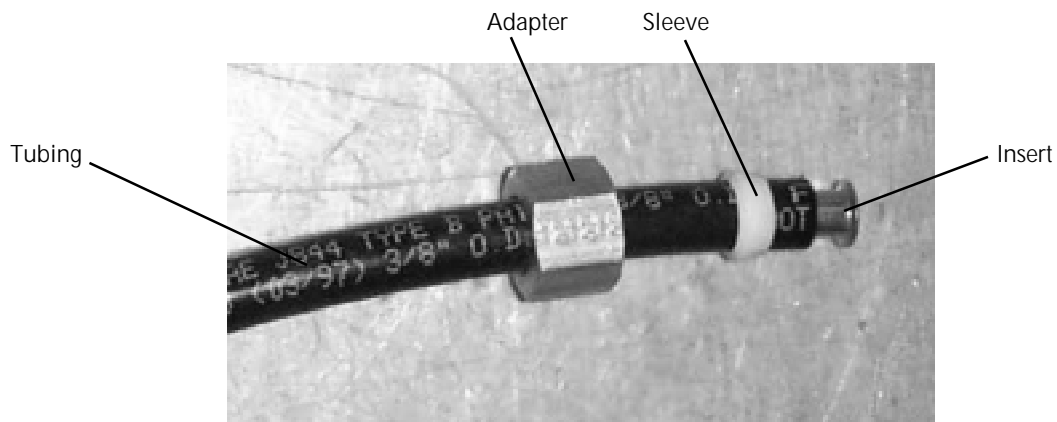

Figure 5 Tubing, Insert, Sleeve and Adapter Assembly
4. Assemble tubing, insert, sleeve and adapter as shown in Figure 5 below. Note orientation of sleeve.